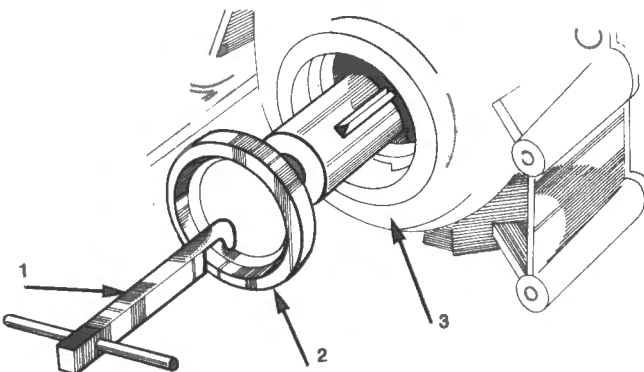

Fig. D-59
- 2 Extract seal with 18G1087. Fig. D-59.